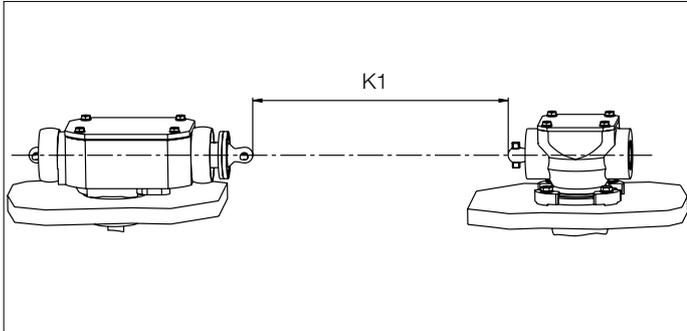

Fig. 33.
1. Determine the distance K1 between the spherical shaft ends; see Fig. 33.